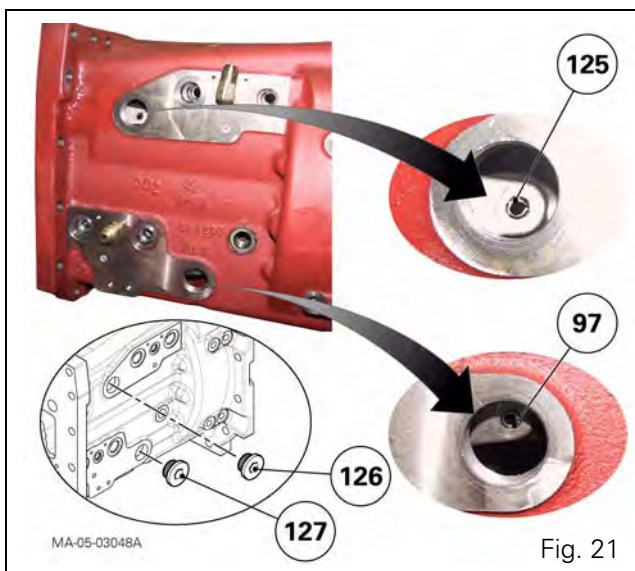

Fig. 21
44. Align the holes in the forks (72) and (96) with those in the corresponding selector rails (Fig. 21).
45. Insert new pins to attach the forks to the selector rails. Refit the plugs (126) and (127) (Fig. 21).